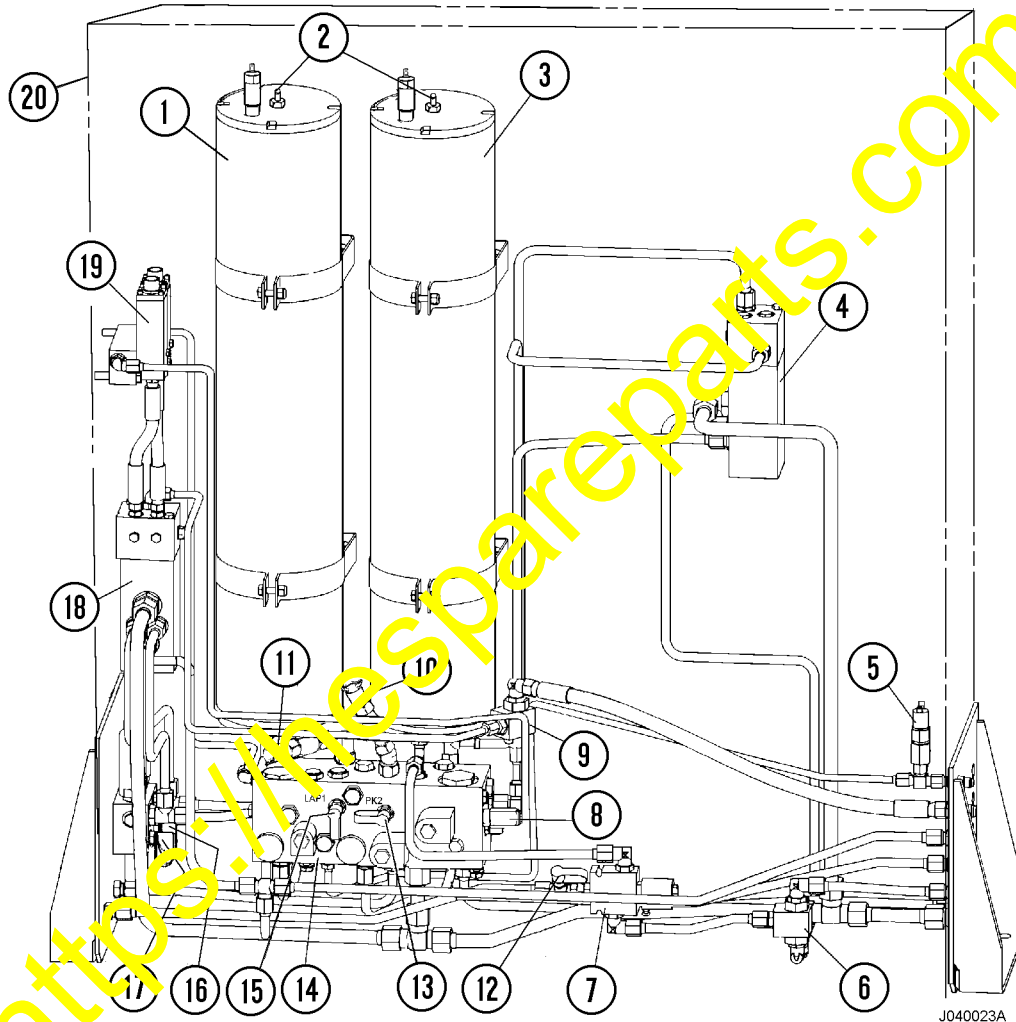

Figure 6 Hydraulic Components Cabinet
2. Open each brake accumulator bleeddown valve and precharge both brake manifold accumulators (1 & 3, Figure 6) to 98.6 kg/cm2 (1400 psi). Allow gas temperature to approach ambient temperature before completing precharge process.
- a. Front brake test port (12, Figure 6).
- b. Left rear brake test port (17).
- c. Right rear brake test port (16).
- d. Park brake release pressure port "PK2" (13).
- e. Low accumulator pressure test port "LAP1" (15).